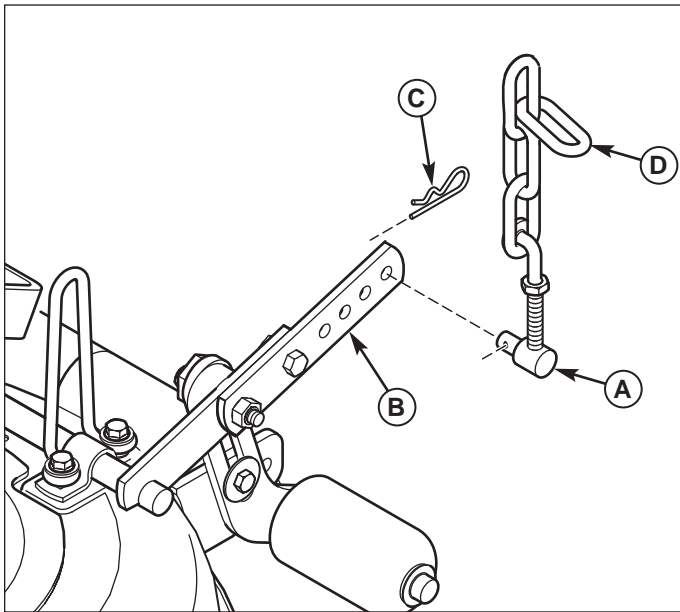

Figure 7. Install Height Adjustment Trunnion
1. Attach height adjust trunnion (A, Figure 7) to bar extension (B) and secure in place with the hair pin clip (C). Re-attach the 4-link chain (D) to hangers on the frame as before using only three links.